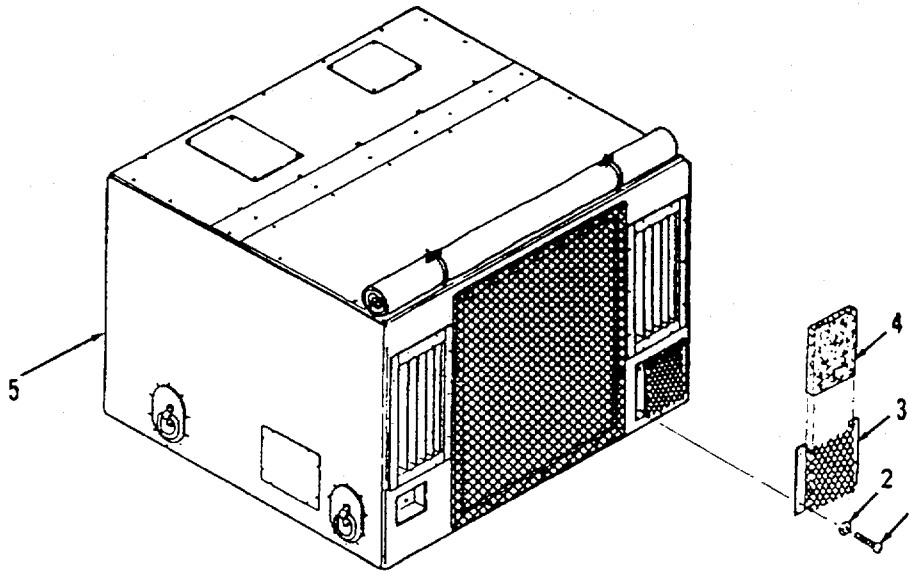

Figure 3-12. Ventilation Guard and Ventilation Air Filter.
**a. Removal.** (Refer to Figure 3-12).
- (1) Remove four screws (1), four lock washers (2), and ventilation guard (3).
- (2) Remove ventilation filter (4) from unit (5).